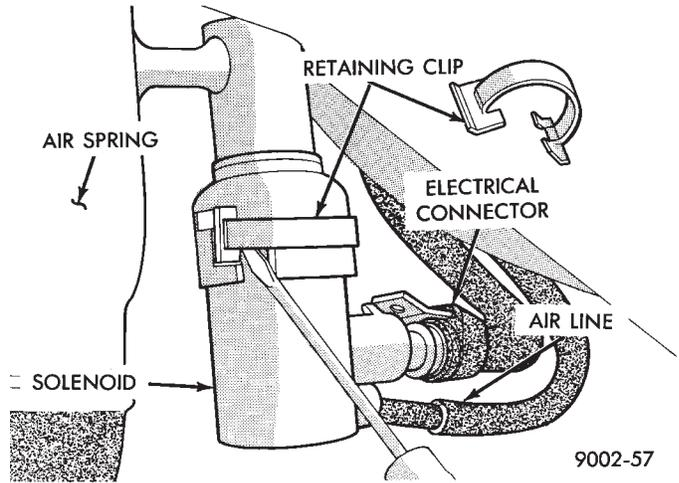

Fig. 14 Remove Retaining Clips
- (1) Separate electrical connection to solenoid.
- (2) Disconnect air line, see Air Lines and Fittings. Solenoids have molded square tangs to fit into stepped notches of the air spring housing. The notches provide an air relief position and a retaining position. The retaining position is locked with a retaining clip.
- (3) Remove retaining clip (Fig. 14).